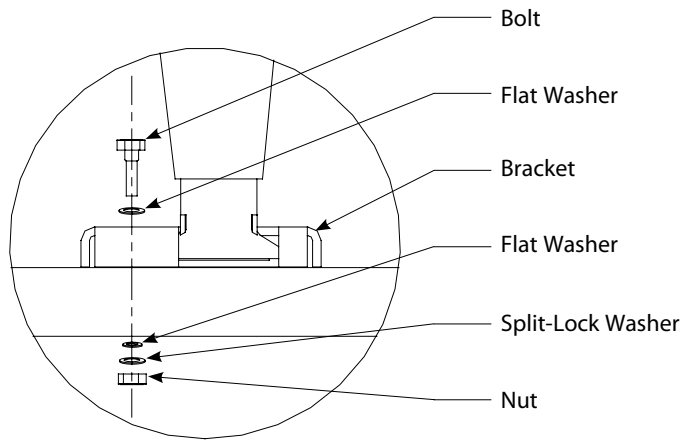

Figure 3: HhB 2 Oven Secured to TurboChef Oven Cart
Reference Figure 3, adjacent.
5. Secure each leg by aligning the bracket with the holes on the oven cart and attaching the parts listed in Figure 3.
3. If stacking ovens on an oven cart, make sure the bottom oven is bolted to the cart and the wheels are locked (Figure 3).
- Grasp the filter latch and lift and pull out until the filter and bracket lie flat (Figure 3).